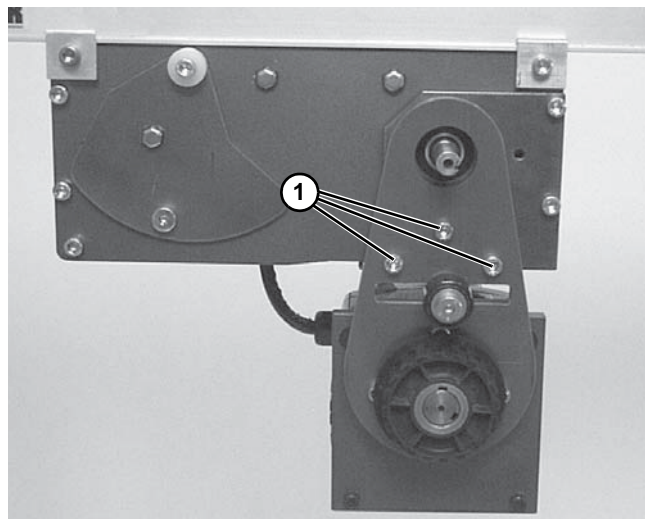

Figure 34
3. Remove three mounting screws (**Figure 34, item 1**) and remove gearmotor.